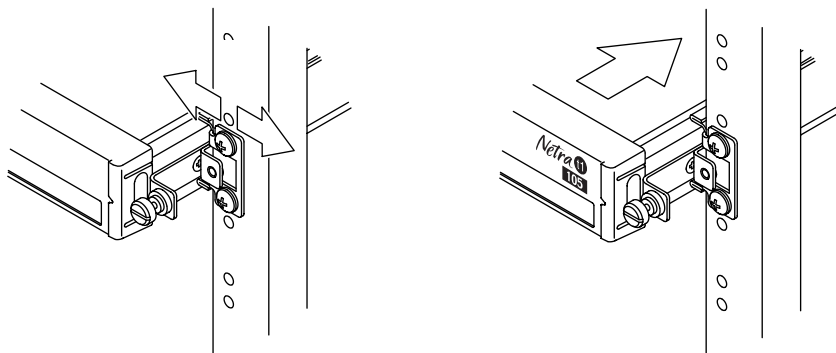

FIGURE 1-6 Adjusting the Mount and Tightening the Thumbscrew
- FIGURE 1-6 Adjusting the Mount and Tightening the Thumbscrew 5
Refer to FIGURE 1-6 on page 5.
Refer to FIGURE 1-6.